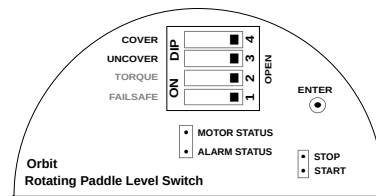

Figure 24: Saving RPM
- RPM is entered, but not saved. To save and test the RPM, set the COVER and UNCOVER switch back to OPEN position as shown in Figure 24.